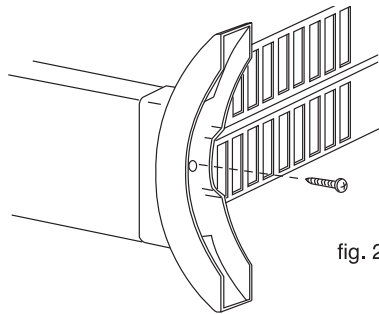

fig. 2
- 2 Fasten the feet in position using the screw (fig. 2).